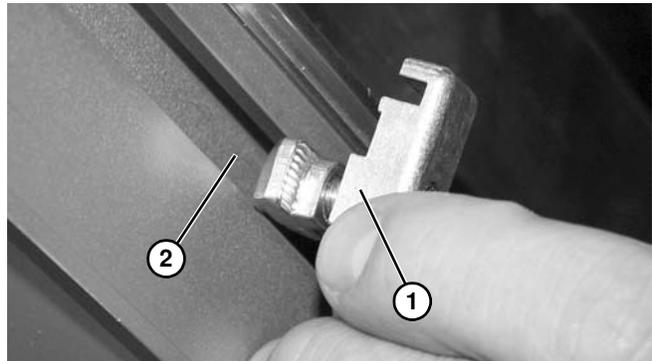

Figure 33
1. Install guide clip assembly (Figure 33, item 1) into conveyor t-slot (Figure 33, item 2) as shown.